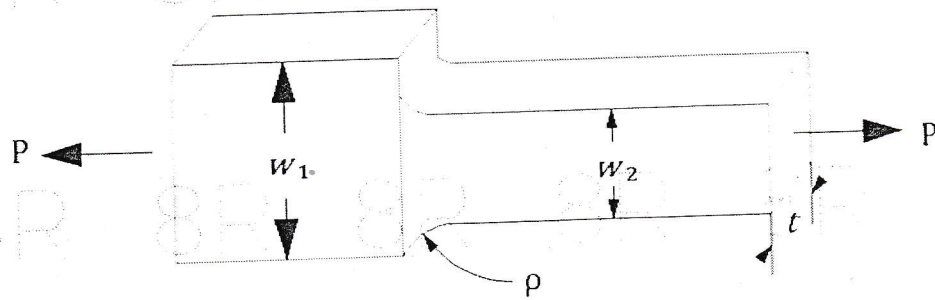

Figure: 1
b) A plate with a width change is subjected to a tension load as shown in figure 1. The tension load is $P = 3800$ N, and the dimensions are $w_2 = 30$, $w_1 = 14$, and $t = 6$ mm. It is made of a polycarbonate plastic with yield strength $\sigma_0 = 65$ MPa. In a tension test, this material exhibits quite ductile behavior, finally breaking at a strain around $\epsilon_f = 110$ to 150%. What is the safety factor against large amounts of deformation occurring in the plate due to yielding? [7+8]